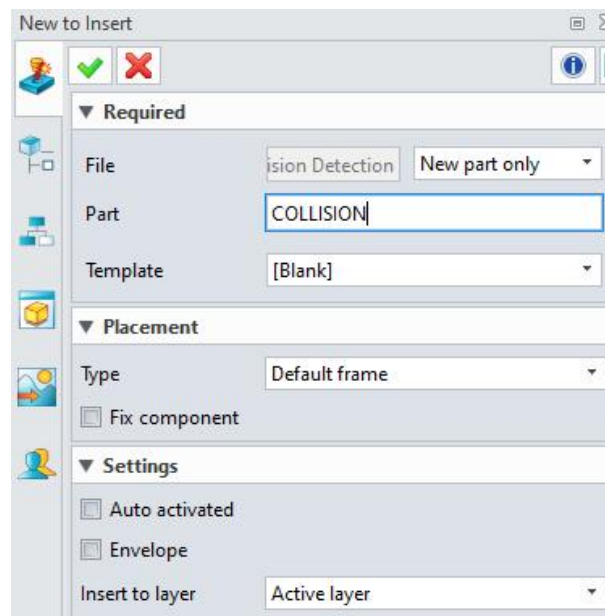

Figure 11-6: Insert New Component
- Click the "Create" button to complete the creation of the new component. (Figures11-6)